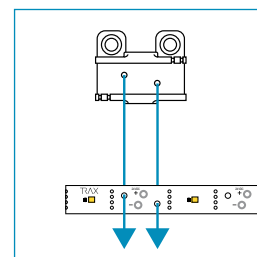

Figure 7
1. Snap Deep Bar Retention Clips to back side of LED bar where extra support is needed. Line up Deep Bar Retention Clip to alignment holes on LED bar in between LEDs (Figure 7).